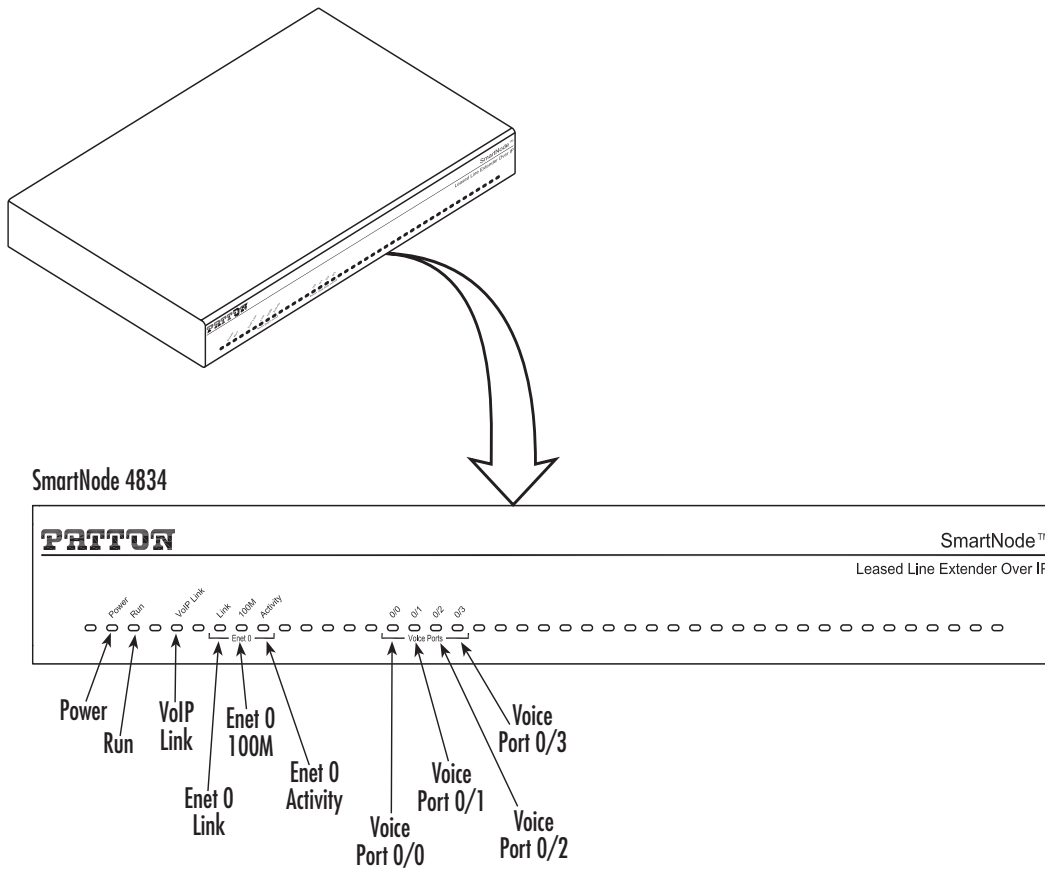

Figure 13. SmartNode extender front panel LEDs and Voice port locations (SmartNode 4834 shown)
4. Verify that the green *Power* LED is lit (see Figure 13).